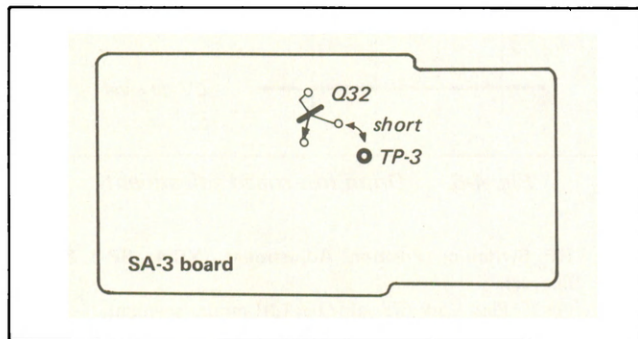

Fig. 4-9. RF switching position adjustment (2)
- (6) Play back the monoscope signal segment of the alignment tape.
- (7) Short the collector of Q32 on the SA-3 board and TP3 (GND) with a lead having alligator clips. (See Fig. 4-9.)